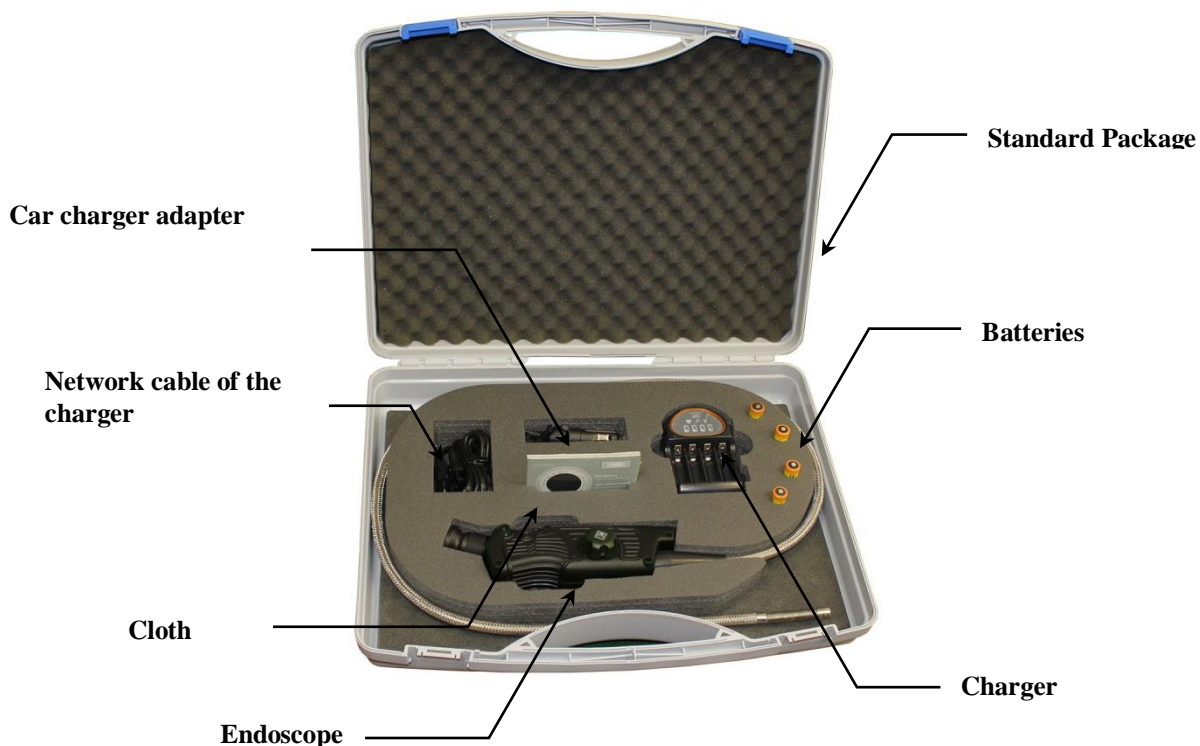

Figure 1
1.3.2 Figure 1 shows the main components of the product in standard packaging.